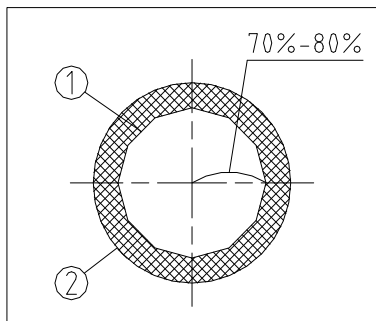

Fig. 19
As the contrast is usually low, it is advised to adjust the condenser aperture diaphragm to be 70%-80% of the N.A. of objective. The eyepiece can be taken off when it's necessary to observe from the tube. Adjust the aperture diaphragm adjusting ring (3) until see the figure as shown in Fig. 19, to adjust the proportion (see Fig. 19&20, (1) is the image of aperture diaphragm, (2) is the edge of objective).